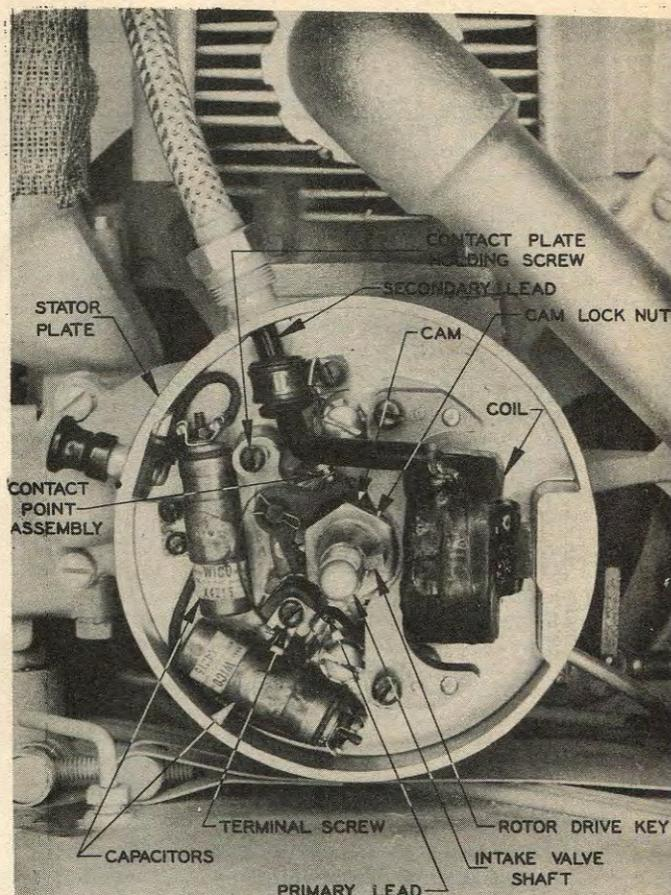

Figure 6 - Contact Point Adjustment
b. Ignition (Figure 6). - The ignition of the model HRU engine is a high tension flywheel type magneto mounted as a complete assembly at the end of the intake valve assembly. This consists of a magnet mounted in the rotor, and a high tension coil with laminated core mounted on the stator plate, together with the contact point assembly and capacitors. To determine if the ignition is functioning, disconnect the shielded high tension lead at the spark plug and hold 1/4 inch from cylinder shield. Depress starting switch. If no spark, or only a weak one, is obtained, check following items:
(1) Contact Points. - The only magneto adjustment is at the contact points which should be inspected every 100 hours of operation to see that the gap is exactly .020 inch. To adjust, proceed as follows: